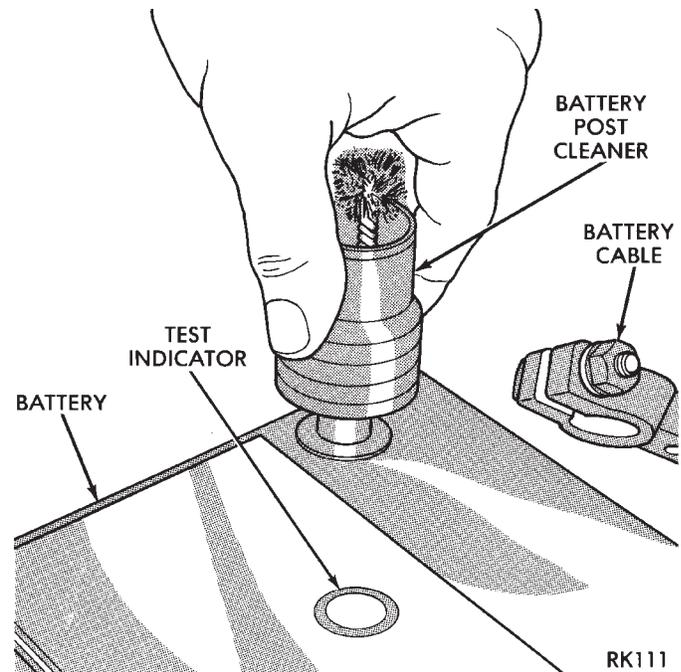

Fig. 6 Cleaning Battery Posts
(9) Clean battery posts with a suitable battery post cleaning tool (Fig. 6).